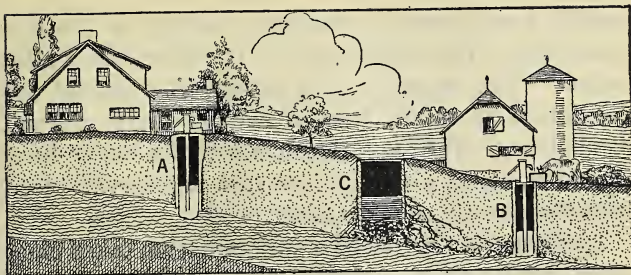

Fig. 23. The house well A will furnish pure water. The barn well B will receive drainage from cesspool C. The water will be impure and should not be used
71. Cesspools may be dangerous. Cesspools are sometimes a source of danger. If they are placed so that water drains from them into the well, the well water becomes contaminated or polluted and causes disease. They always must be so placed that the *drainage is away from the water supply* (Fig. 23).